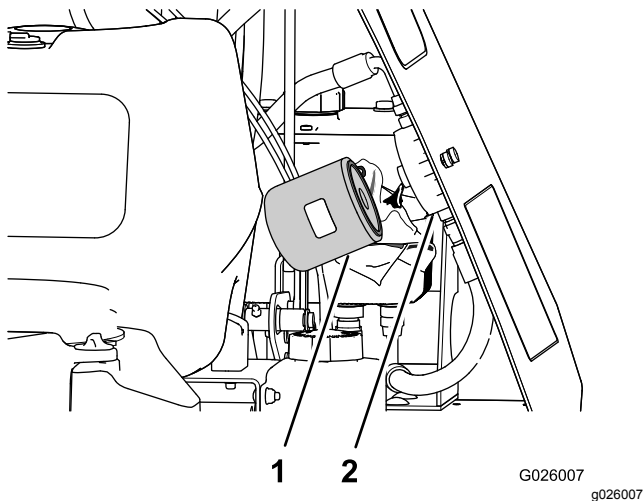

Figure 57
- Rotate the auxiliary hydraulic filter counterclockwise and remove it from the base of the filter adapter (Figure 57). Allow the fluid to drain.
- Install the filter by rotating it clockwise onto the filter adapter until the seal contacts the filter adapter, then tighten the filter an additional 2/3 to 3/4 turn (Figure 57).